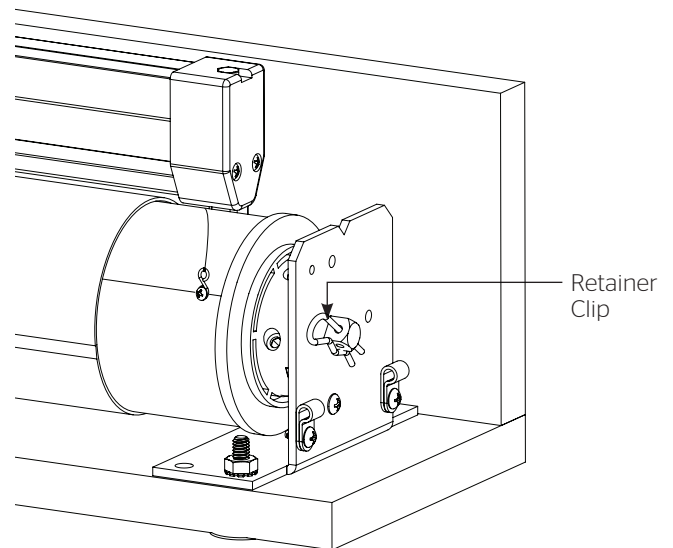

Figure 15
13. Lower the roller, slide the bracket onto the motor end of roller and insert retainer clip (Figure 15).